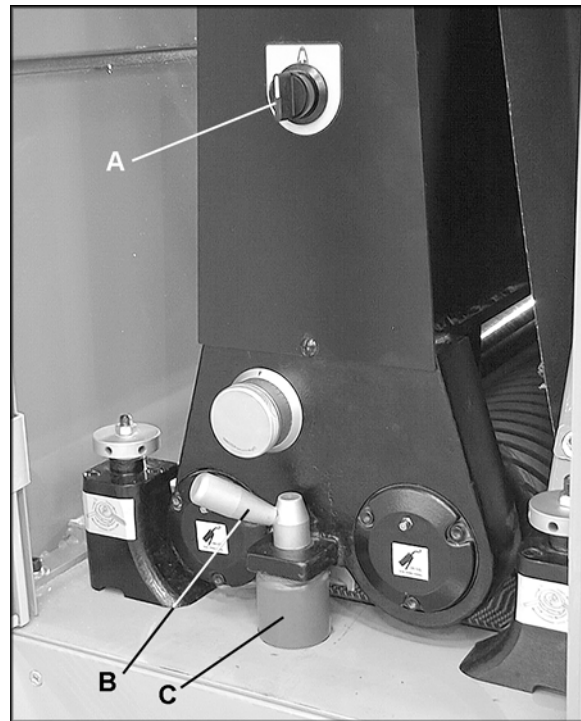

Figure 3
2. Turn the air valve switch (A, Figure 3) to Off position.
3. Remove the lock screw (B, Figure 3) by turning it counterclockwise and lifting up.
4. Remove the spacer block (C, Figure 3).
8. Re-install the spacer block (C, Figure 3) and lock screw (B, Figure 3) and tighten the lock screw by turning clockwise.
9. Turn the air valve switch (A, Figure 3) to ON to tension the sanding belt.
1. Remove the lock screw (B, Figure 3) and the spacer block (C, Figure 3).